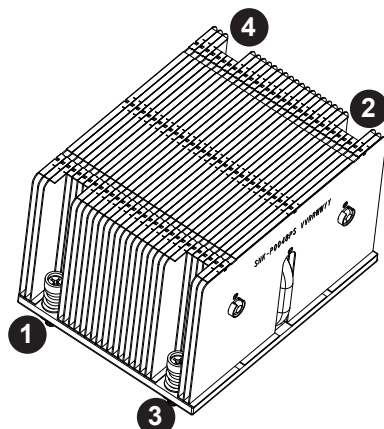

Figure 5-2. SNK-P0048PS
4. Press the release tabs to the lock positions to secure the DIMM module into the slot. See Figure 5-2.